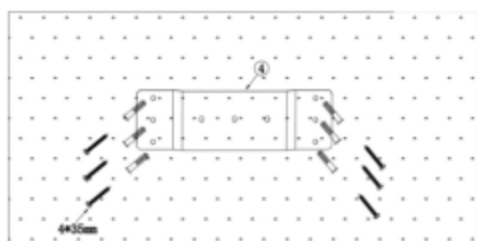

Figure 4
Third, fix ④ with 6pcs $\phi 7\text{mm}$ plastic expansion tubes and 6pcs 4*35mm screws on the wall as figure 4 .